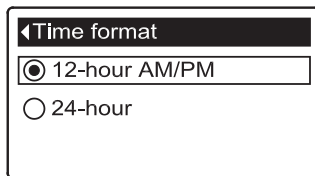

FIG. 110
1. From any of the rolling status screens, press the SELECT (O) button to display the **Main menu**.
3. Press the SELECT (O) button to display the User preferences menu.
5. Press the SELECT (O) button to display the Time format menu (See Figure 110).
6. If the desired time format already has a black dot next to it (See Figure 110), go to Step 7. Otherwise, press the DOWN (▼) or UP (▲) buttons to scroll to the other time format, then press SELECT (O) to choose it.
7. Press the SELECT (O) button. The display will go back to the User preferences menu.